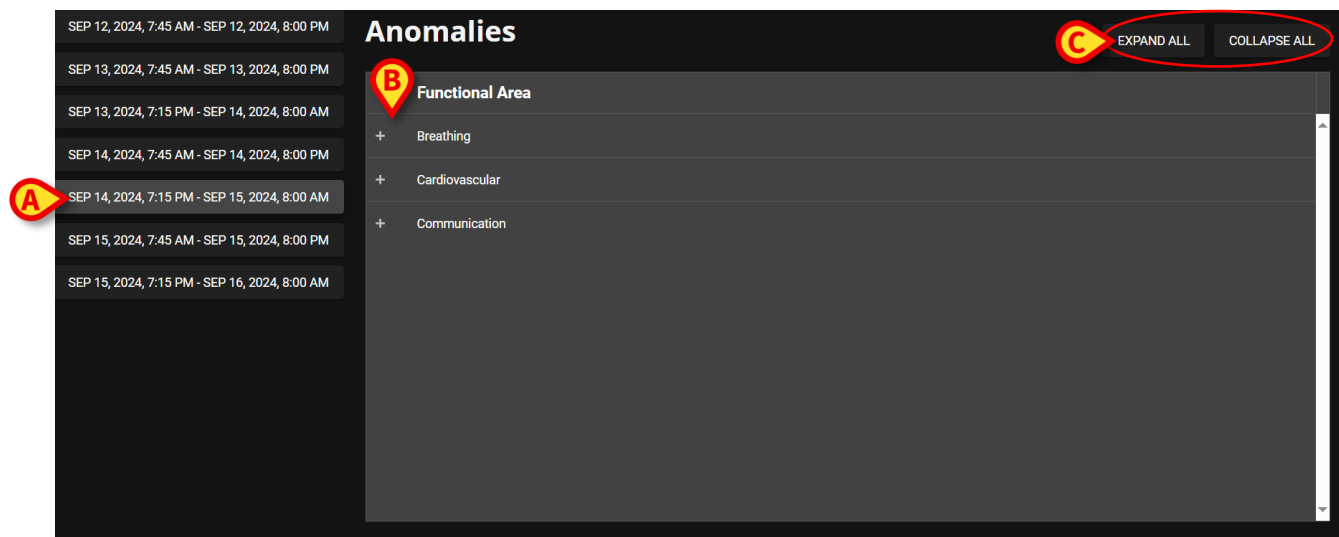

Fig 101
- Click a shift (Fig 101 **A**) to display the related anomalies on the central area (Fig 101 **B**).
- Click the **Expand All** button to expand all the items. Click the **Collapse All** button to collapse all the items (Fig 101 C).